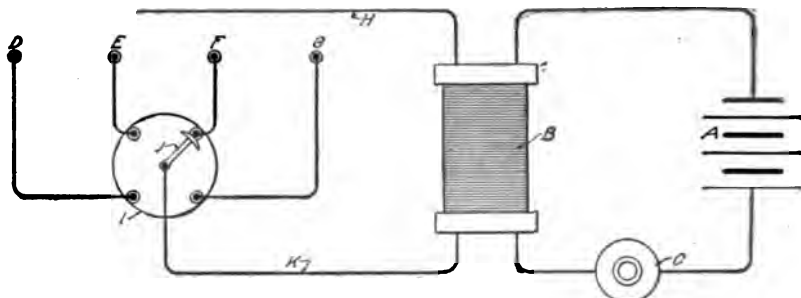

Fig. 46. Wiring Diagram of Non-Vibrator High-Tension System
**Non-Vibrator Coil.** As the term indicates, this is simply an induction coil minus the vibrator. But instead of using four coils, as with the vibrator type, a single coil is employed, and a distributor is inserted in the secondary or high-tension circuit. The essentials of such a system are shown by Fig. 46, a battery being indicated as the source of current. The timer *C* is driven by the camshaft of the motor so that the battery circuit is successively closed and opened in the usual firing order of the cylinders, four contacts being made for each two revolutions of a four-cylinder four-cycle motor. The contact is of sufficient duration to permit the coil to "build up", i.e., to have its soft iron core become thoroughly magnetized, and is then quickly broken. At the instant that the latter occurs, the finger *J* of the distributor is passing the contact of the
independent coil is employed for each cylinder. Owing to the high voltage of the secondary current, actual contact is not necessary in a distributor, a small gap or clearance presenting no obstruction to the passage of the high-tension current, so that wear at this point is avoided. In the earlier types, a brass arm passing close to contact points, or sectors embedded in hard rubber, was usual. Carbon brushes making contact against the disk by means of light springs, were subsequently adopted and are now commonly used. As the carbon is very hard and its contact surface becomes glazed by the friction, the wear is practically negligible. The complete wiring of a distributor system is shown in Fig. 46. *H* is the ground or common-return connection of the secondary circuit and *K* is the connection to the distributor *I*, from which the high-tension current is distributed by the arm *J* to the spark plug leads *D*, *E*, *F*, and *G*.